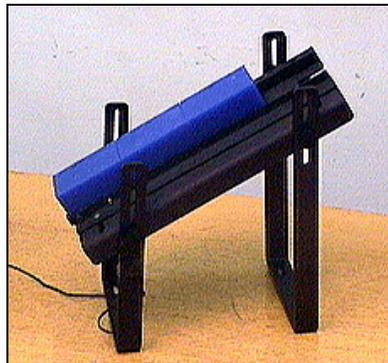

Figure 8
- 2 Place several wax blocks supplied with the system in the feeder slide. Adjust and set the width of the slide according to the width of these blocks (see Figure 8).